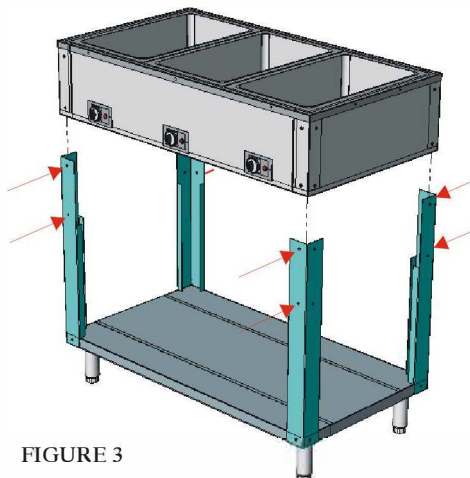

FIGURE 3
C. Set main box assembly onto corner posts as shown in Figure 3. Have a second person assist in placing the box. Use $\frac{1}{4}$ -20 x $\frac{3}{4}$ " Truss head screws on the operator and customer sides only.